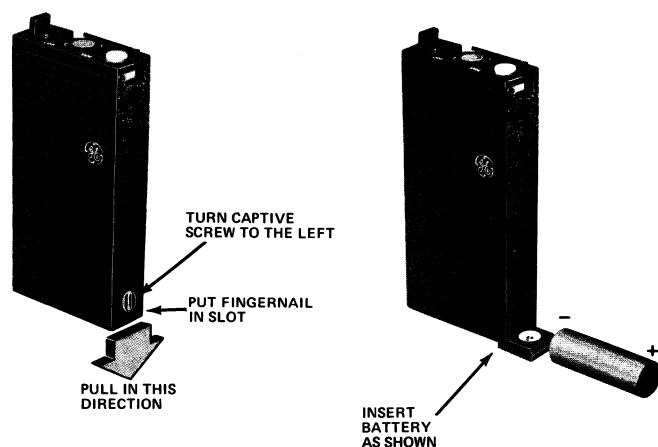

Figure 4 - Battery Replacement
2. Turn the captive screw to the left as far as it will go (see Figure 4).